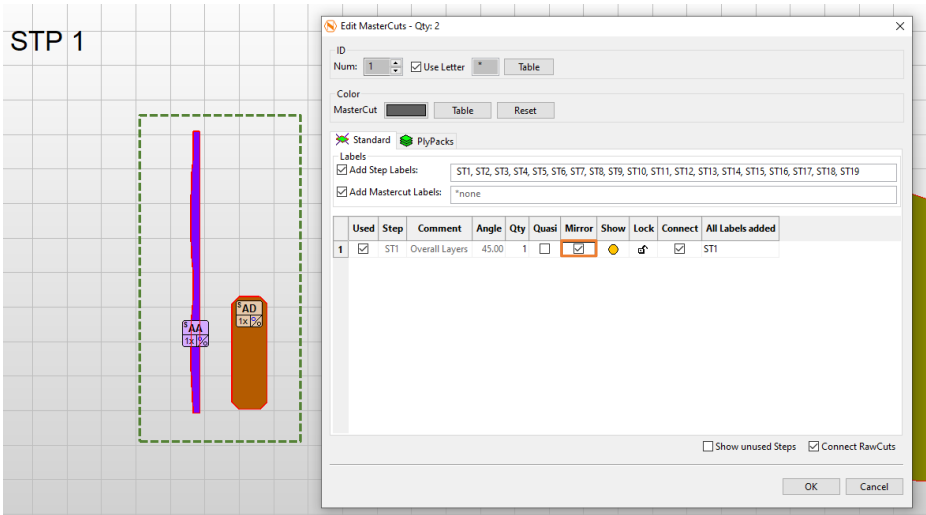

Figure 285
- MasterCuts with IDs AA and AD (Figure 285).